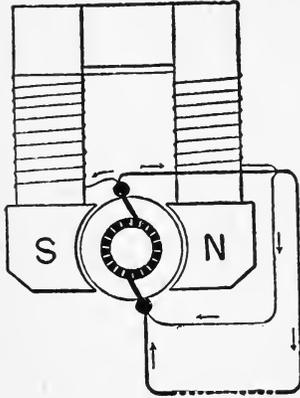

FIG. 44.
**110.** In a SHUNT WOUND DYNAMO (see diagram fig. 44) a field winding of high resistance is connected at the brushes in parallel to the external circuit, so that only a portion of the current generated by the machine passes through the field winding, which consists of a large number of turns of very fine wire, so that the small current may have the same effect as the large current in the series wound type. The resistance of the shunt coils is greater than that of the armature, therefore variations in the armature will not affect materially the magnetizing power of the shunt, which will act nearly uniformly as exciter. As the current generated by the dynamo increases, the difference of potential naturally decreases some, because of the resistance of the armature and because of the counter magnetism. (See §82.) For this reason, a field rheostat is generally connected in between the two field coils, by which the strength of the field magnetism can be regulated.